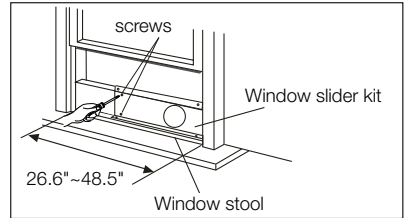
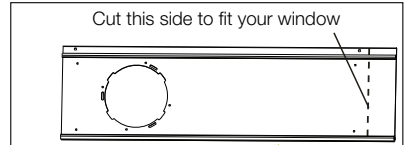
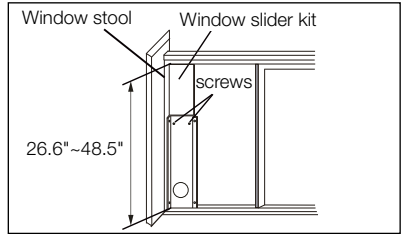

Fig. 13
Fig. 14
Fig. 19
2. Open the window sash and place the window slider kit on the window stool (Fig. 13). Attach the window slider kit to the window stool. Adjust the length of the window slider kit according to the width of window. Screw down the two screws on the window slider kit. See Fig. 13. Cut the adjustable window slider kit if the width of window is less than 26.6 inches (Fig. 14).
- Open the window sash and place the window slider kit on the window stool. See Fig.19. Attach the window slider kit to the window stool. Adjust the length of the window slider kit according to the height of window. Screw down the two screws on the window slider kit. See Fig.19. Cut the adjustable window slider kit if the height of window is less than 26.6 inches (Fig. 14).